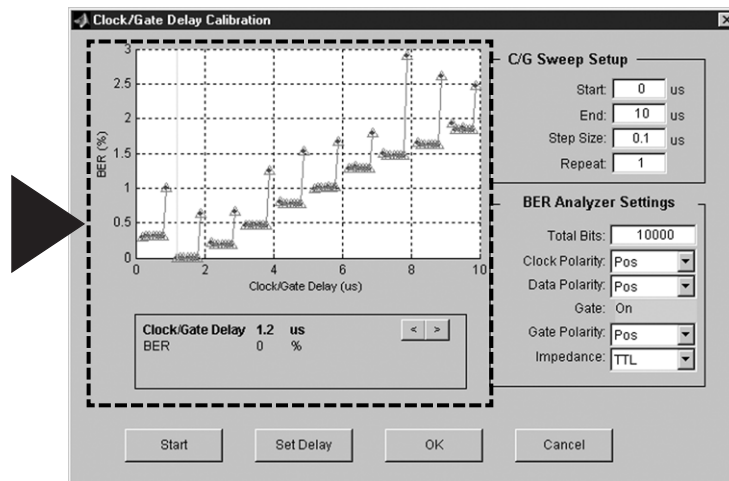

Figure 35. BER vs. clock/gate delay calibration results.
7. After the plot has been generated, a marker is automatically placed at the clock/gate delay setting that yields the minimum BER, Figure 35. Notice that the plot looks similar to a step function. With no impairments added to the signal, there is a range of approximately 1/2 a symbol period that yields the same BER results. In this case, the marker is placed at the first BER minimum. When impairments are added to the signal, the plot no longer looks like a step function. Instead, it looks like a series of parabolas, from which a true minimum can be found. By initially performing the calibration without impairments added to the signal, the clock/gate delay range for optimum BER can easily be determined. As a result, when later performing clock/gate delay calibration on an impaired signal, the sweep range can be adjusted accordingly to decrease test time.